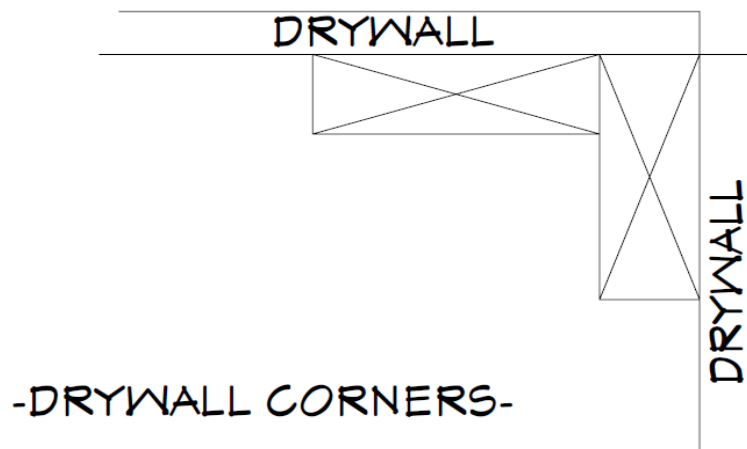

Figure 14-1. Outside Corner Installation of Sheetrock.
14. On outside corners of walls, install a piece of sheetrock on the first wall so its corner side edge is flush with the outside edge of the corner stud. Score and snap (or saw-cut) this piece flush to the corner. (An acceptable tolerance is a maximum of ¼” short of the corner, but do not allow the piece to extend past the outside edge of the corner stud.) Form a recessed corner by installing the second sheetrock piece on the adjacent wall so its edge is flush with the other outside edge of the corner stud. The outside corner ends of the sheetrock should not overlap the corner (see Figure 14-1).